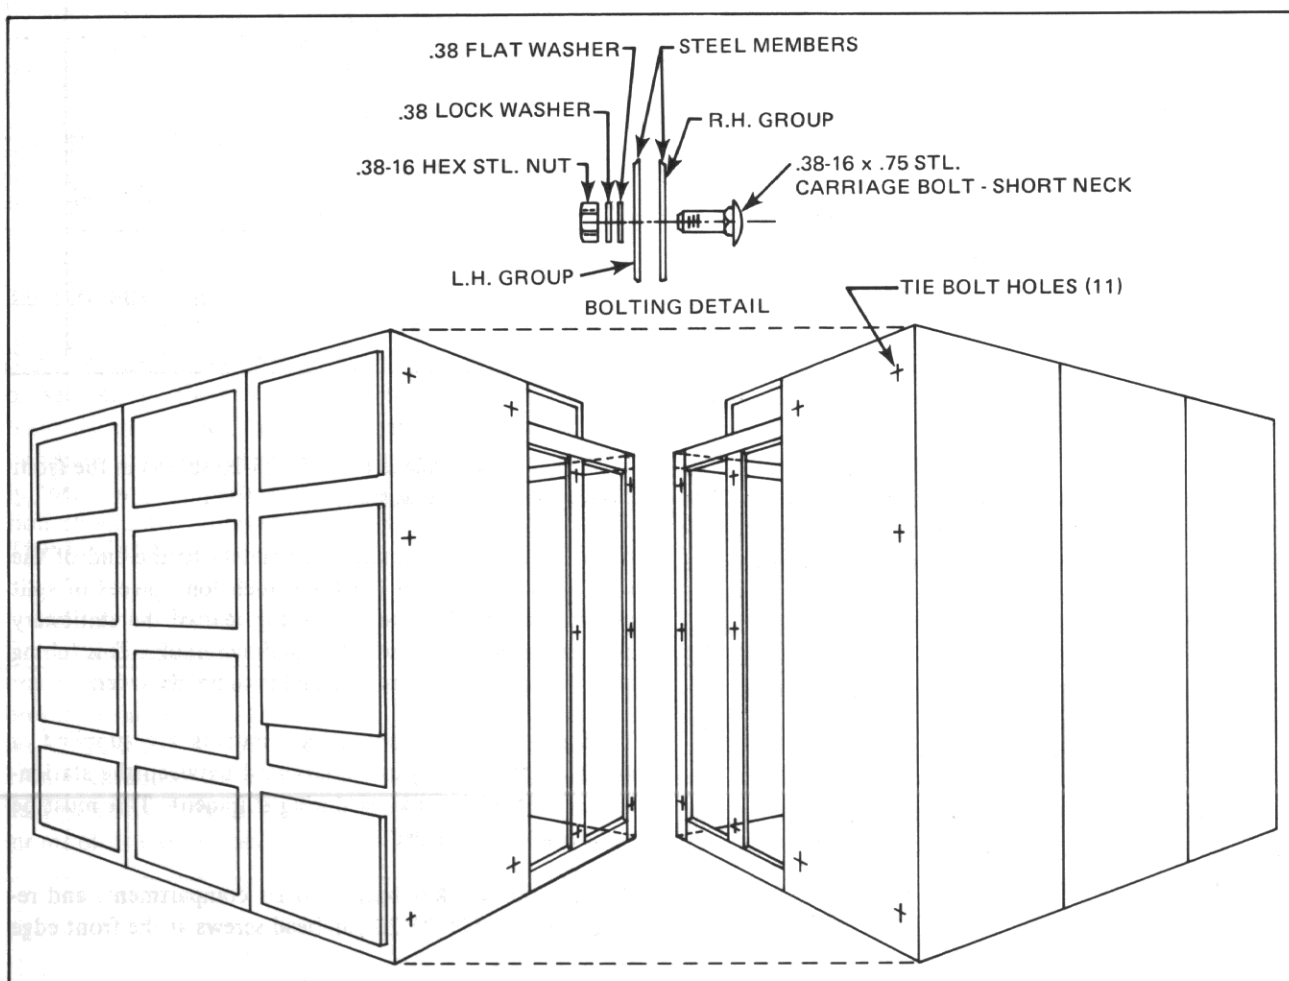

Fig. 36 Tie Bolt Locations for Joining at Shipping Break
After the first group has been located, the second group should be moved into position and similarly checked. The steel housings are fastened together at eleven (11) locations which are shown in Fig. 36. Special short neck .38-16 x .75 steel carriage bolts are furnished for this purpose. It will facilitate assembly to locate the bolt head in the right hand unit with the nut and washers